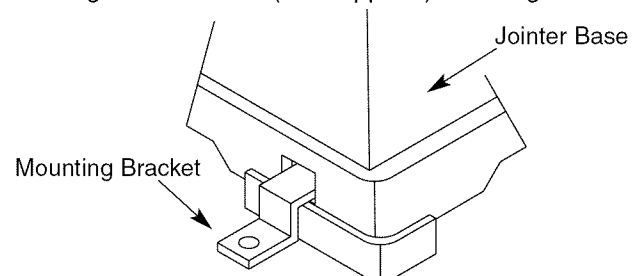

Figure 3 - Use Mounting Brackets to Secure Jointer
- Jointer/planer can be installed on workbench using bolts, lock washers and hex nuts (not supplied) or using wood screws (not supplied). See Figure 3.